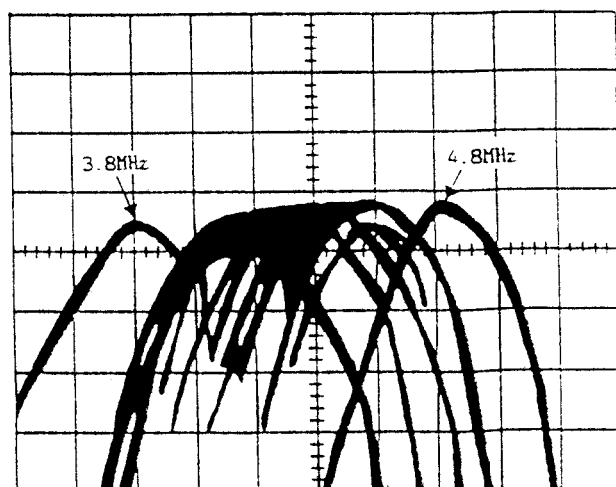

Fig. 16
- (1) Connect TP4004 to the input terminal on the spectrum analyzer, then adjust 3.8MHz and 4.8MHz as shown in Fig. 16 with VR4002 and VR4003.